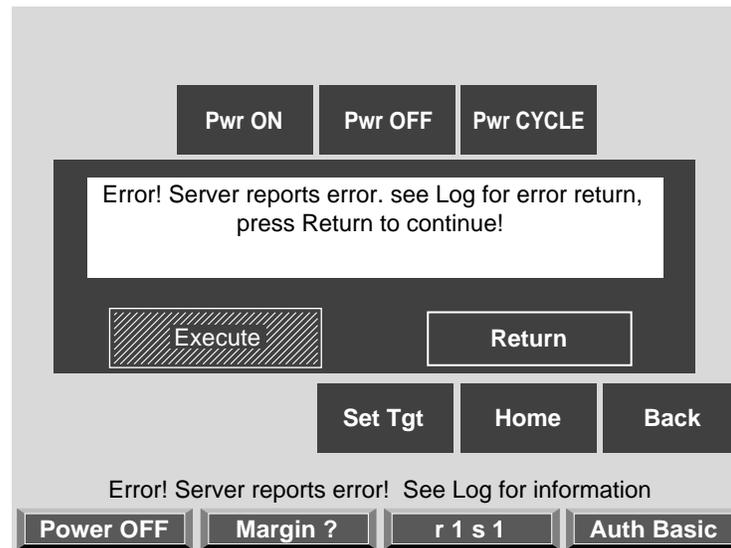

Figure 2-24 Command Error/Timeout Window
7. If the command you enter is not executed successfully, a Command Error/Timeout window appears, which displays the error as shown in Figure 2-24. Press **Return** and then return to the Home window. Select **Log** to get to the Log window, which displays an explanation of the error.